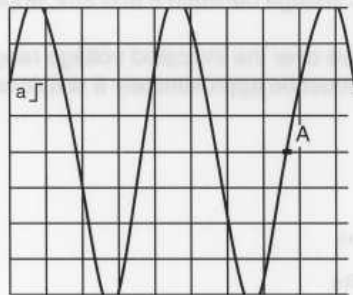

Figure 4.9 Trigger level indication on screen
- Press the TRIGGER key. Use the select/adjust keys to verify that the trigger level range is more than 8 divisions (4 divisions up and 4 divisions down). The selected trigger level is shown on the display (reversed indication "⇐ LEVEL"). Also the trigger level indication, marked with an A ] will shift, while shifting the trigger level. See figure 4.9.